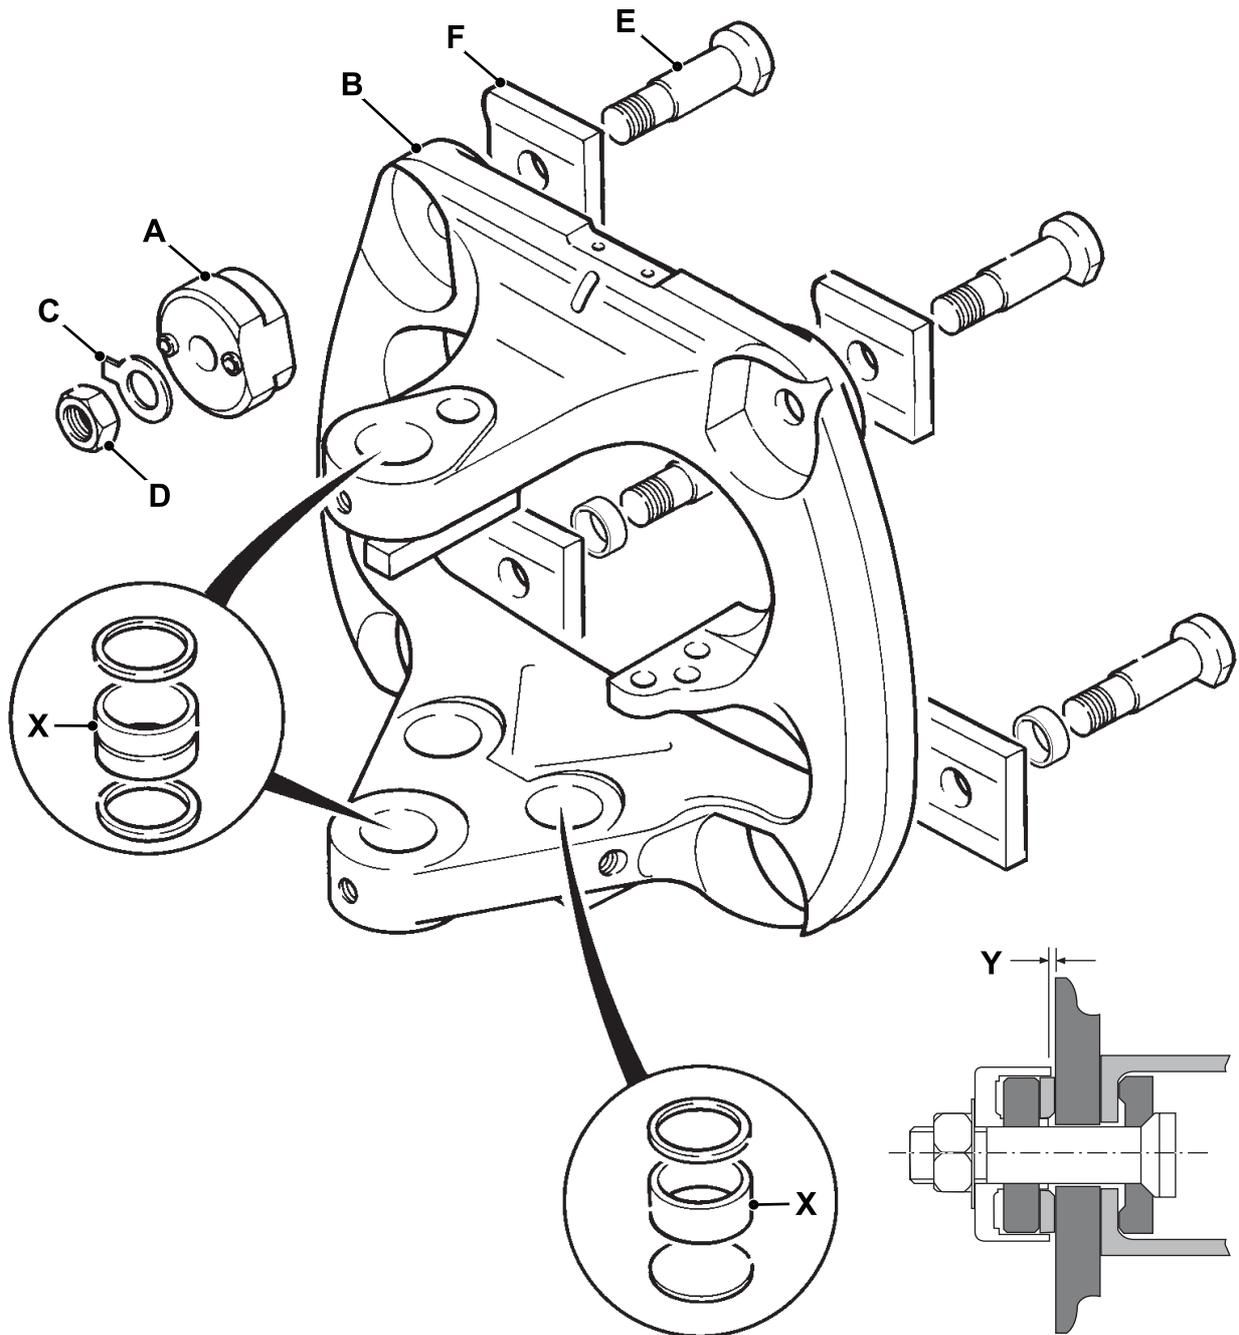

Fig 13. Sideshift Carriage (Manual sideshift shown)
- 3 → Fig 13. (□ B-143). Disconnect and remove all the feed hoses to the hydraclamp units **A**. Plug and cap all open ports to prevent loss of fluid and ingress of dirt. Label each hose before disconnecting to ensure correct replacement.